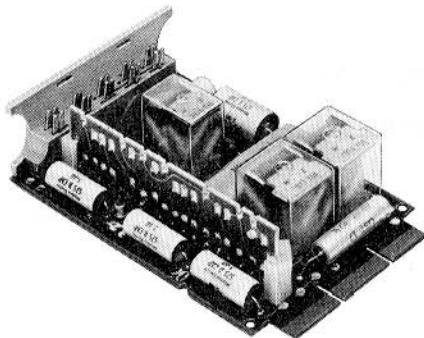

Fig. 1—Typical 4-Inch Key Telephone Unit
**1.01** This section provides schematic information for the 400-series key telephone units (KTUs) which provide talking circuits and control and signaling functions between telephone sets in a 1A2 Key Telephone System (KTS) (Fig. 1 and 2).
one end of which is equipped with contacts. A 4-inch board may have 18, 20, or 40 contacts; an 8-inch board will have 80 contacts (requiring two vertical 40-pin connectors). The circuit boards plug into mating connectors in key service units, panels, or apparatus mountings. Wiring from the connectors will be dedicated or nondedicated leads. Dedicated leads are those that normally appear on the same contacts of all KTUs, such as supply voltages and grounds, and are normally factory wired. Nondedicated leads are those whose designation and function vary and are made available for installer connections. Typical 4- and 8-inch KTUs are shown in Fig. 1 and 2.